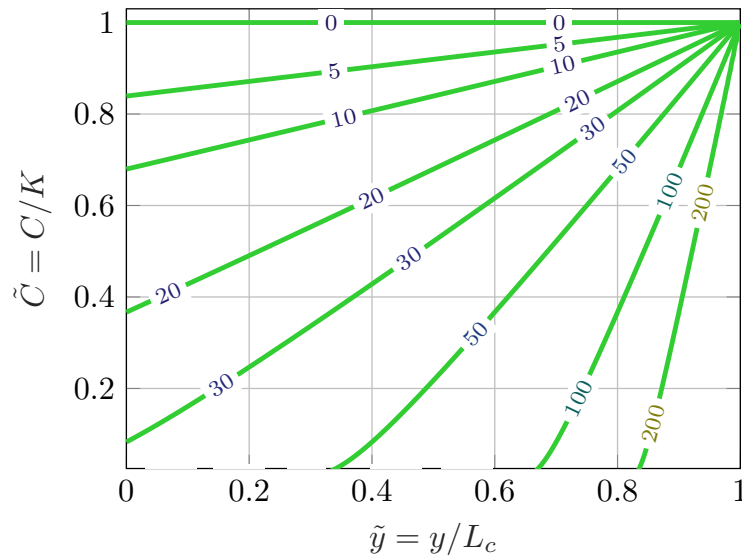

FIGURE 4 – Dimensionless concentration profiles in the clog for different Damköhler number indicated on each curve.
- 1.5 pt 15. Figure 4 shows profiles of concentration at different Da . Comment the plot in light of the results and assumptions made previously in this problem.